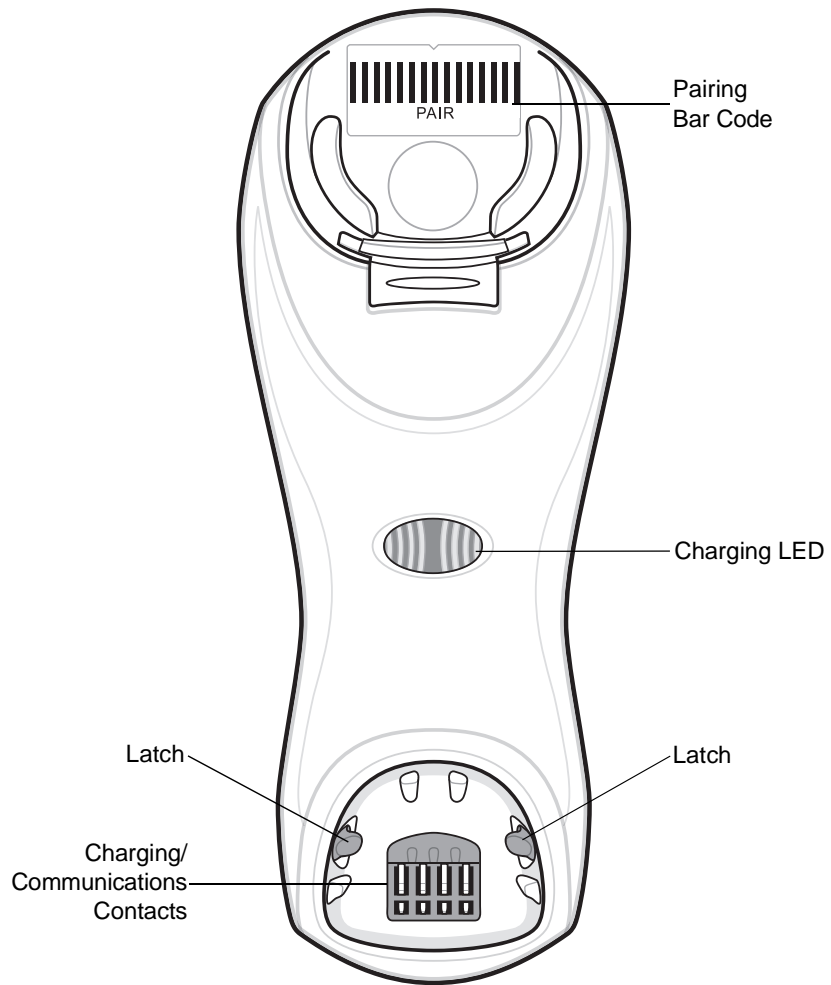

Figure 1-3 Cradle Front View
2. Ensure the convertible mount hook on the front of the cradle is inserted with the hook facing up. If not, remove and reverse the hook so that it is in position to secure the scanner in place. (See Figure 1-3 on page 1-4 for the location of the convertible mount hook.)